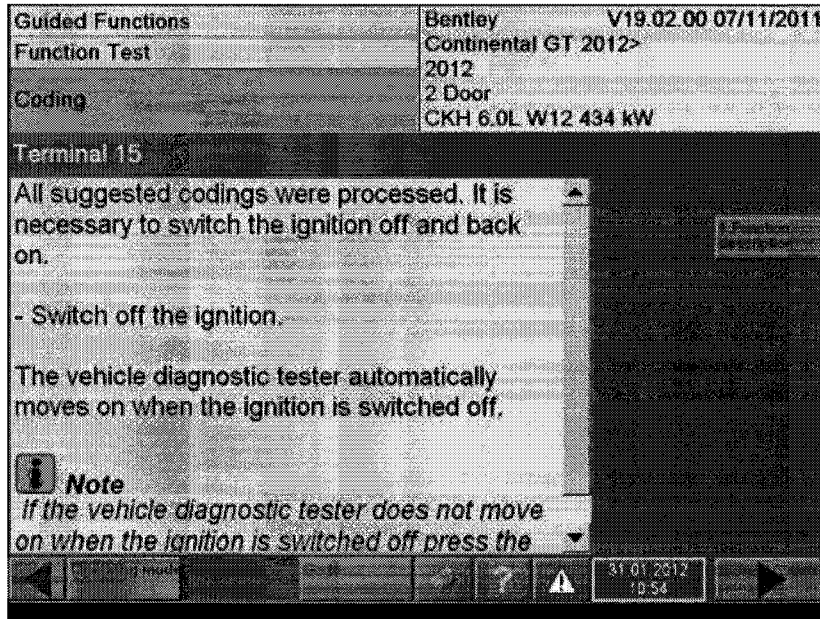

Figure 19
21. When prompted carry out an ignition cycle, the screen will automatically move on (see Figure 19)